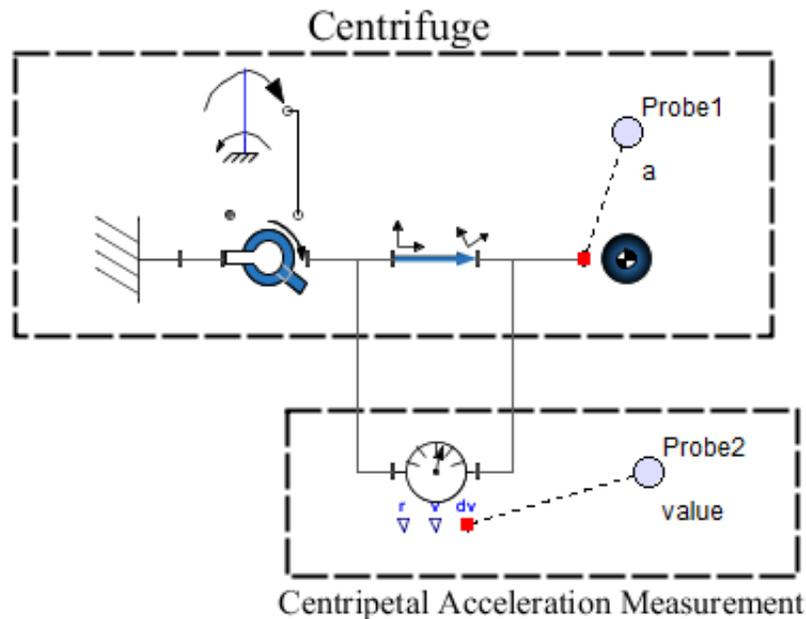

Fig. 4: Component diagram
1. Connect the **Relative Translation** sensor across the **Rigid Body Frame** component in a parallel configuration, as shown in Fig. 4.